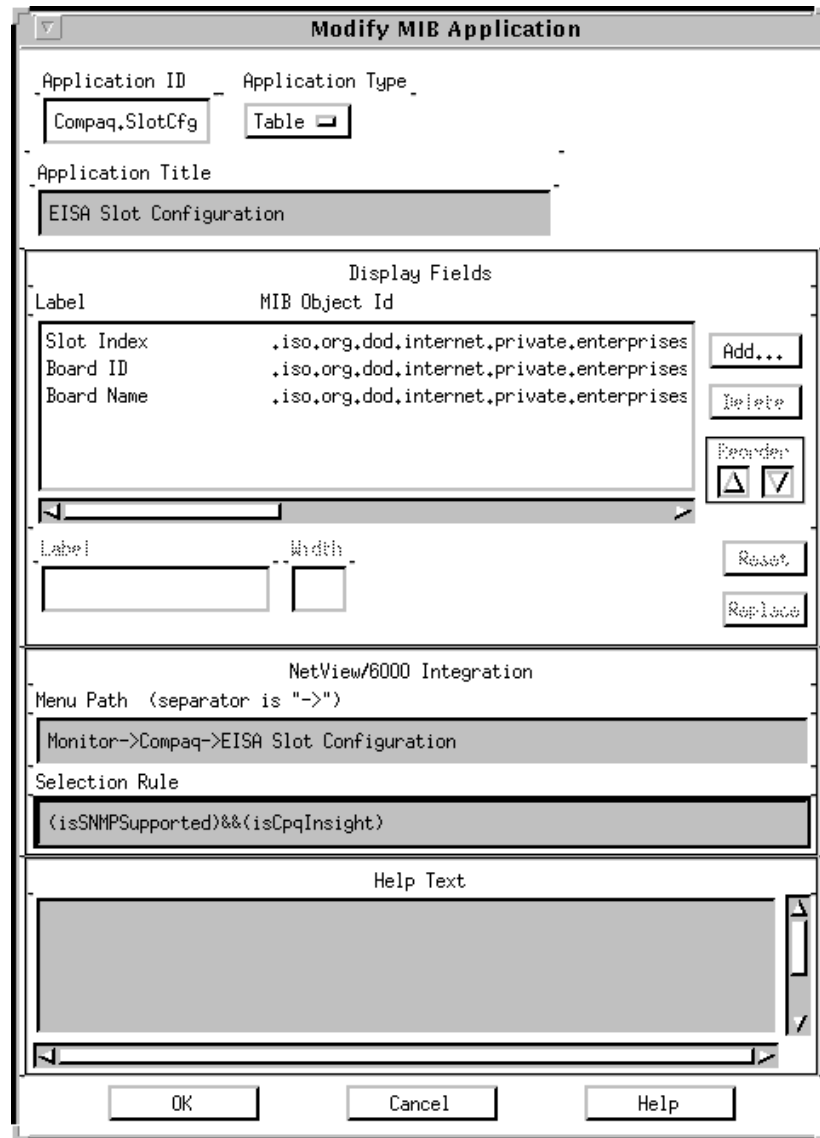

Figure 4-3. Building an application for EISA configuration information
10. You can also add help text to provide assistance for using this application. When completed, you should see a window similar to Figure 4-3: